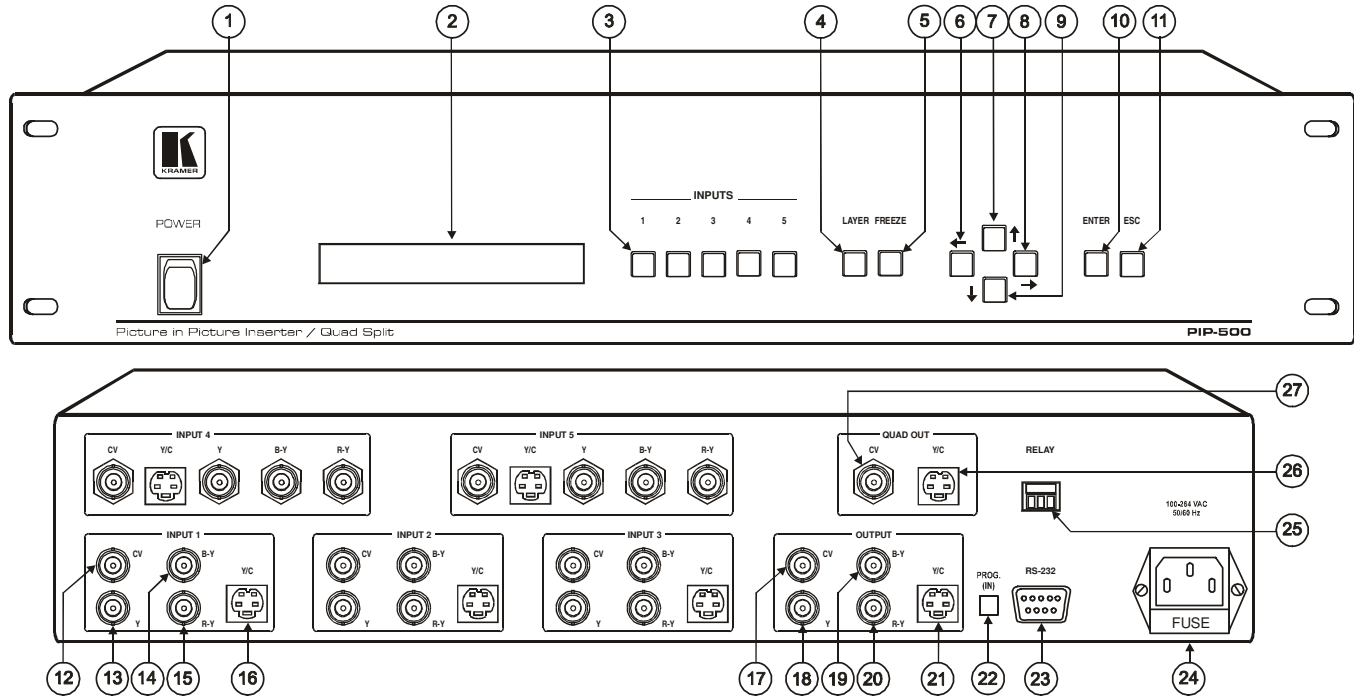

Figure 2: PIP-500 Picture in Picture Inserter / Quad Split
- Figure 2 illustrates the **PIP-500** *Picture in Picture Inserter / Quad Split*